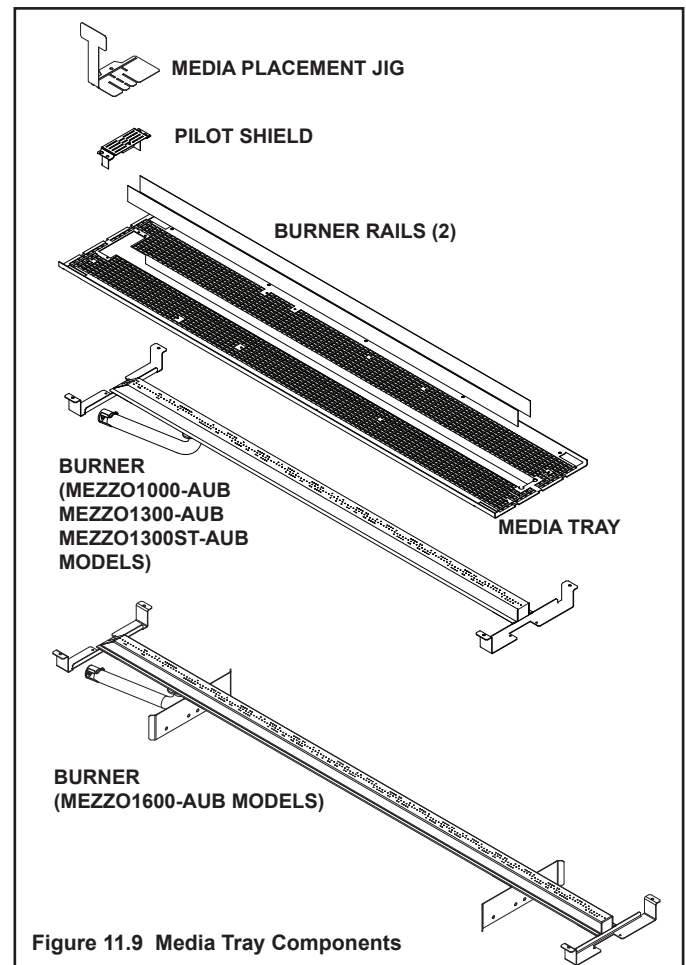
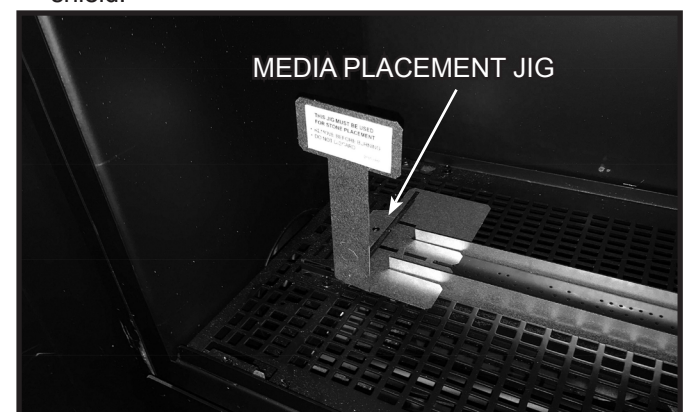

Figure 11.9 Media Tray Components
Figure 11.10 Media Placement Jig in Place
2. The included media placement jig, shown in Figure 11.9, MUST be used any time media are placed on the burner to ensure that none end up in the burner lighting area. Verify that the media placement jig is correctly installed in place in the appliance. See Figure 11.10.